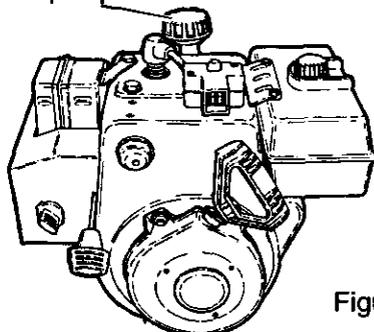

Figure 23
Check the crankcase oil level before starting the engine and after each five (5) hours of continuous use. See Figure 23. Add S.A.E. 5W30 motor oil as needed. Tighten fill cap/dipstick securely each time you check the oil level.